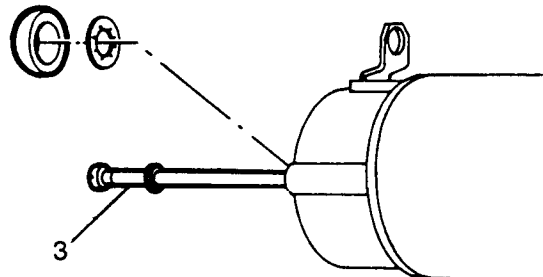

Fig O6.21
- (3) Refer to Fig O6.21. Fit the two through bolts (3) and tighten to a torque of 10,84 N.m.